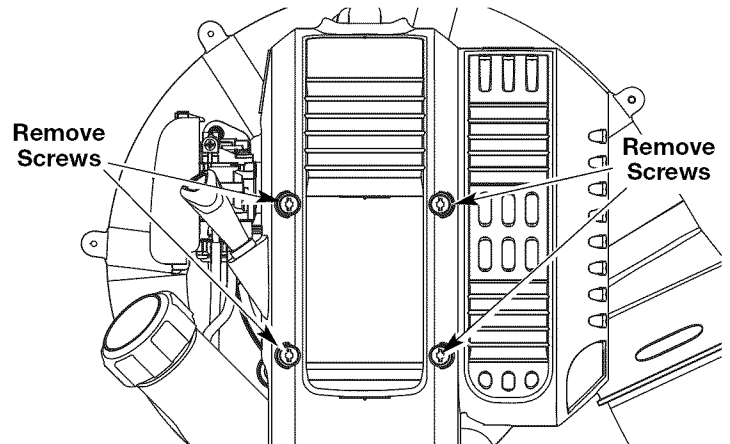

Fig. 26
1. Stop the engine and allow it to cool. Remove the four (4) screws on the back of the engine cover with a Flat-head or T-20 Torx screwdriver (Fig. 26).